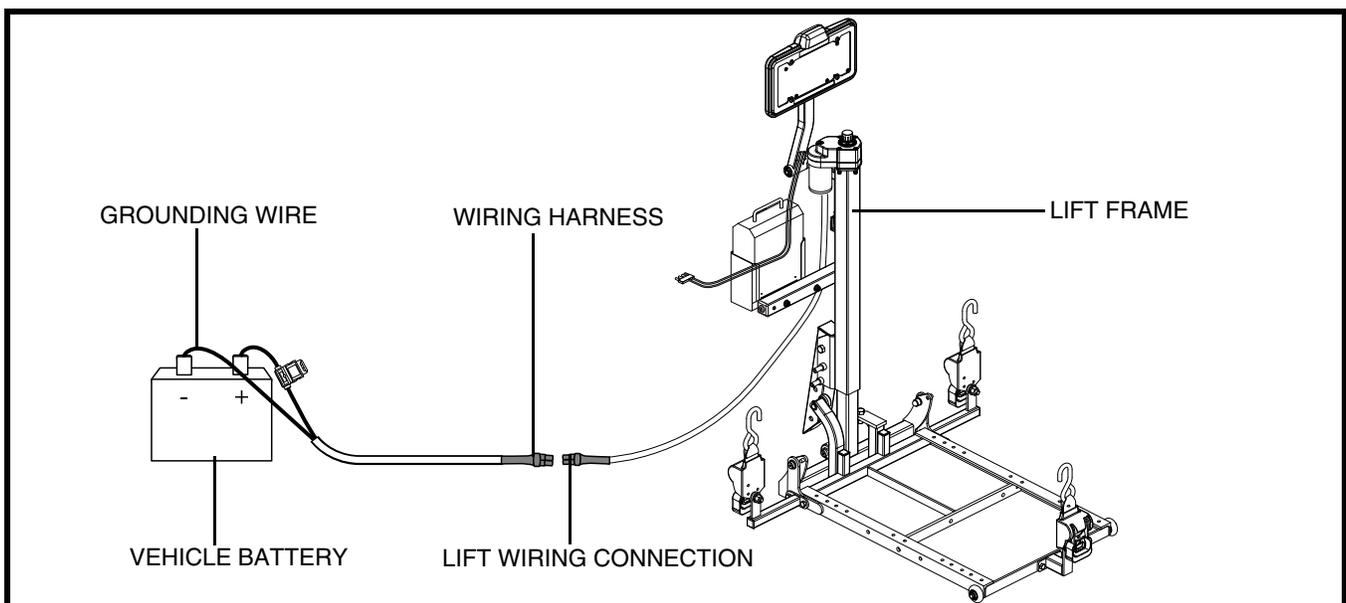

Figure 7. Wiring Harness Installation
1. Route the lift system wiring harness (starting at the lift) through the interior of the vehicle until you reach the vehicle battery. See **figure 7**. You will typically find pass-through points at the rear lighting assemblies, which will enable you to route the cable through the trunk and under the back seat.